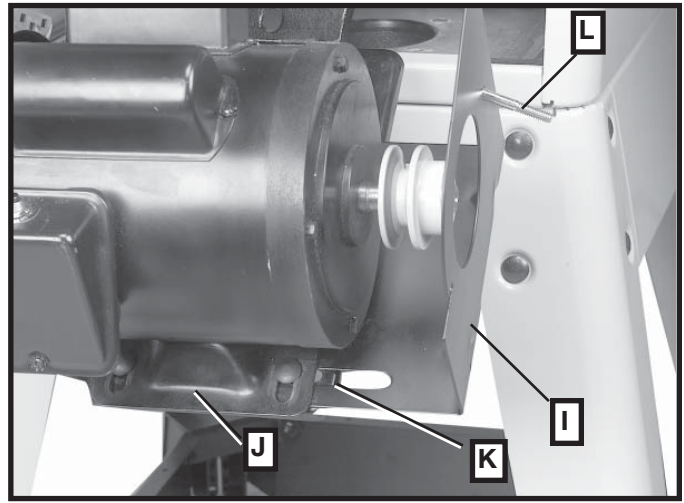

Fig. 36
- Slide the belt and pulley guard bracket (I) Fig. 36, between the motor plate (J) and motor mounting plate (K), as shown.
- Place a ¼" External Tooth Lockwasher onto a ¼-20 x 1 ½" Hex Head Screw. Insert the screw (L) Fig. 36, through the hole in the belt and pulley guard bracket (I) as shown in Fig. 36.